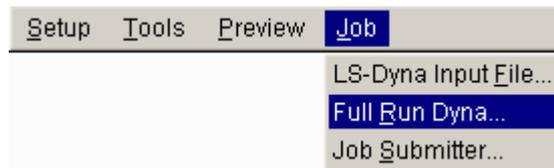

Figure 5.78 Job menu
1. Select **Job**→**Job Submitter...** in the menu bar. See Figure 5.78.